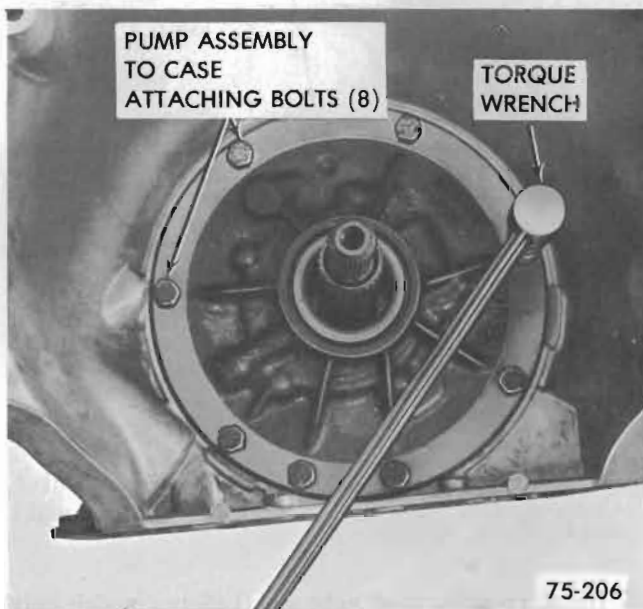

Figure 75-251
3. Install pump assembly into case. Install attaching bolts with new washer type seals. Torque to 20 lb.ft. See Figure 75-251.